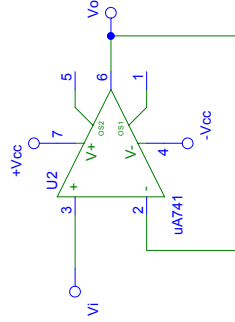

Fig. 4 Voltage follower
- To provide buffering of the output signal, the voltage follower of Fig. 4 must be placed between the output of the envelope detector (Exp. 4) or the output of the FM demodulator (Exp. 5) and the input of the active filter of part 3.